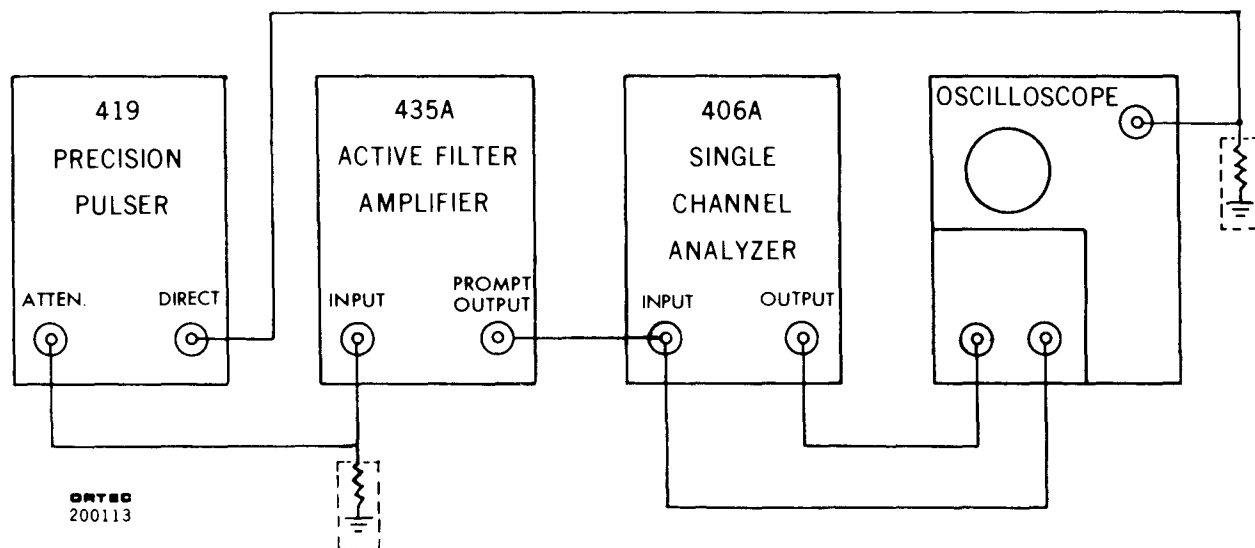

Figure 6-1. Test Setup
Connect the test equipment as shown in Figure 6.1. With the gain controls of the 419 and the 435A, normalize the output of the 435A (BIPOLAR or UNIPOLAR) to 10V, such that a PULSE HEIGHT reading of 1000 on the 419 corresponds to a 10V output pulse from the 435A. Set the 406A LOWER LEVEL dial to 200 and the UPPER LEVEL dial to 800. Connect one probe of the oscilloscope to the LLD OUT connector (CN-5) of the 406A. Observe that in both the WINDOW and NORMAL modes, as the 419 PULSE HEIGHT dial is taken from 0V (000) to full scale 10V (1000), the LLD OUT output pulse from the 406A just appears at 2V and remains throughout the rest of the range.